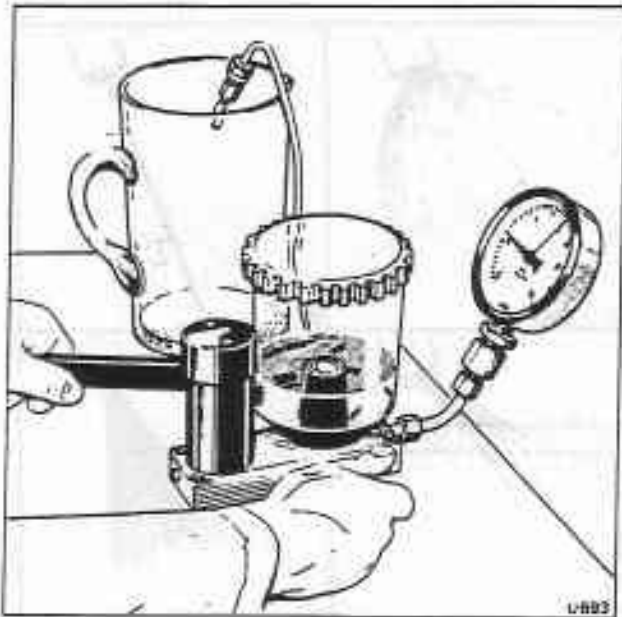

Fig. B2-34 Testing an injector
- Connect the injector to the test equipment RH 9614 (Bosch Number KDJE 7452), see figure B2-34.